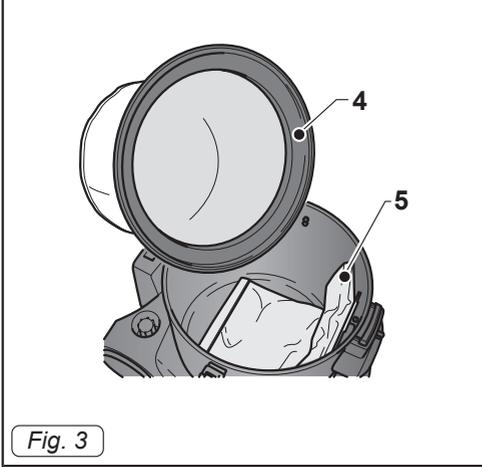

Fig. 3
- Remove the polyester filter (4 Fig. 3).
- Check, if present, that the fleece bag (5 Fig. 3) is mounted inside the appliance.